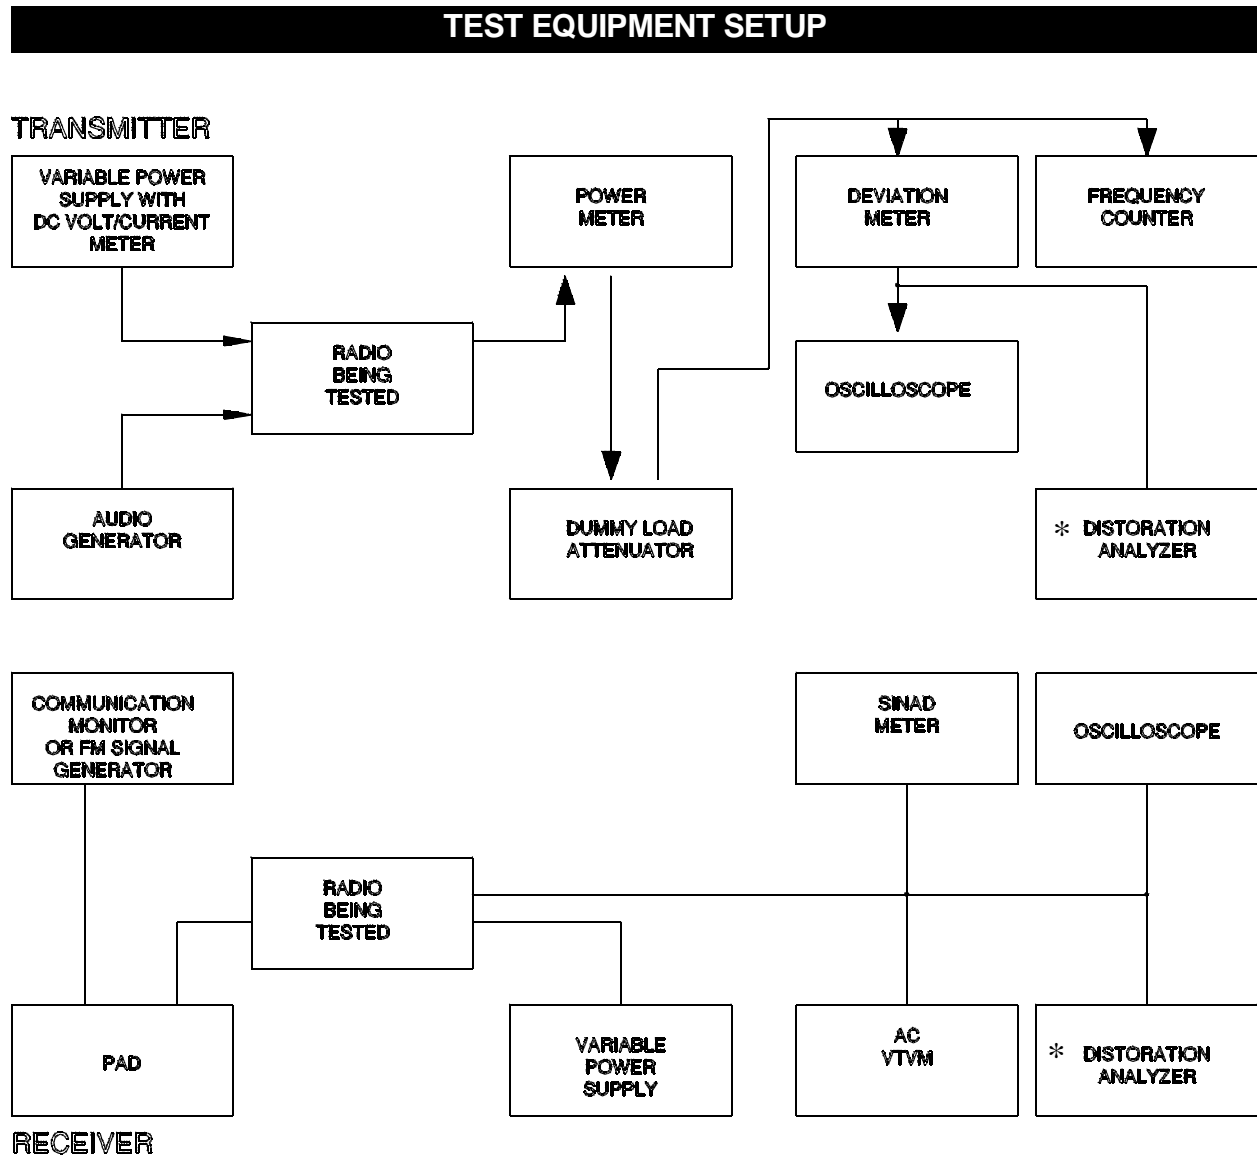

Figure 4 - Test Equipment Setup
1. Connect test equipment to the radio as shown in Figure 4.